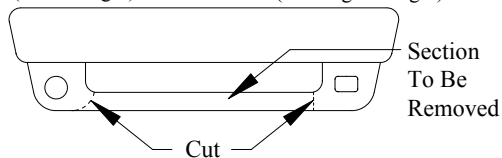

FIGURE 1
① Qty. (2) Hex Bolt, 1/2"-13 x 1-3/4"
③ Qty. (2) Handle Nut, 1/2"
② Qty. (2) Conical Washer, 1/2"
④ Qty. (4) Hex Bolt, M10 x 1.50 x 45
****NOTE: All Mazda vehicles and '93 through -97 Ford Rangers with fog light option require extensive fascia cut. See Figure 1. CONSULT VEHICLE OWNER.**